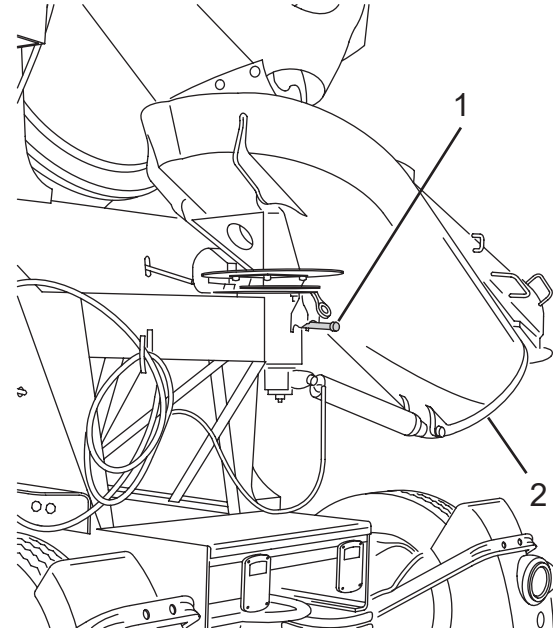

Figure 71
2. While holding the chute, pull down on the lever (Figure 71, Item 1) and move it to the right or left until the lever is seated in one of the lock positions.
3. Move the main chute (Figure 71, Item 2) to the desired position, and while holding the chute, move the lever to the center. Make sure the lever pin is fully seated into one of the holes in the chute plate before releasing the chute. Move the main chute from side to side as needed to align the pin and hole.